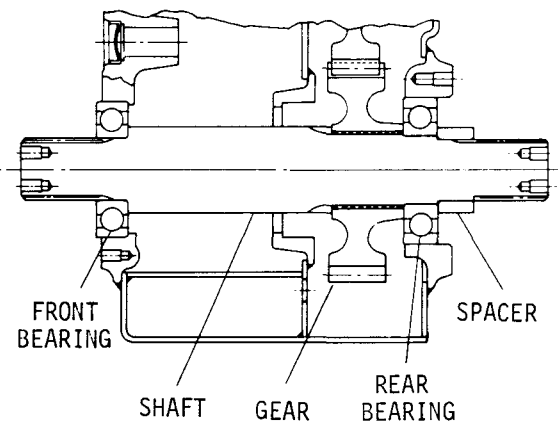

Fig. VII-33. One-piece output shaft and related components
a. Install the transfer driven gear with the longer hub toward the rear of the transfer housing (fig. VII-33). Place the rear bearing in the rear bore to be used as a support when the shaft is installed.
d. Continue assembly with paragraph 2a(7) through (15). Omit subparagraphs (16) through (22). Install the front bearing retainer as described in subparagraphs (23) through (26). Omit subparagraph (27). Complete the assembly using the applicable information in subparagraphs (28) through (34).